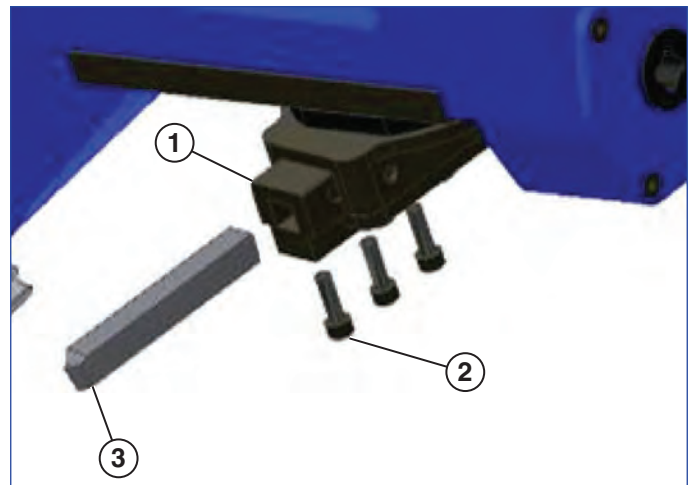

Figure 7
5. Install the tool bit into the tool block (**see Figure 7**). Make sure the cutting edge is facing away from the tool bit screws. Position the tool bit so approximately 0.5 – 0.75 in. (12.7 – 19.1 mm) of it extends beyond the bottom of the tool block; tighten the three tool bit setscrews.